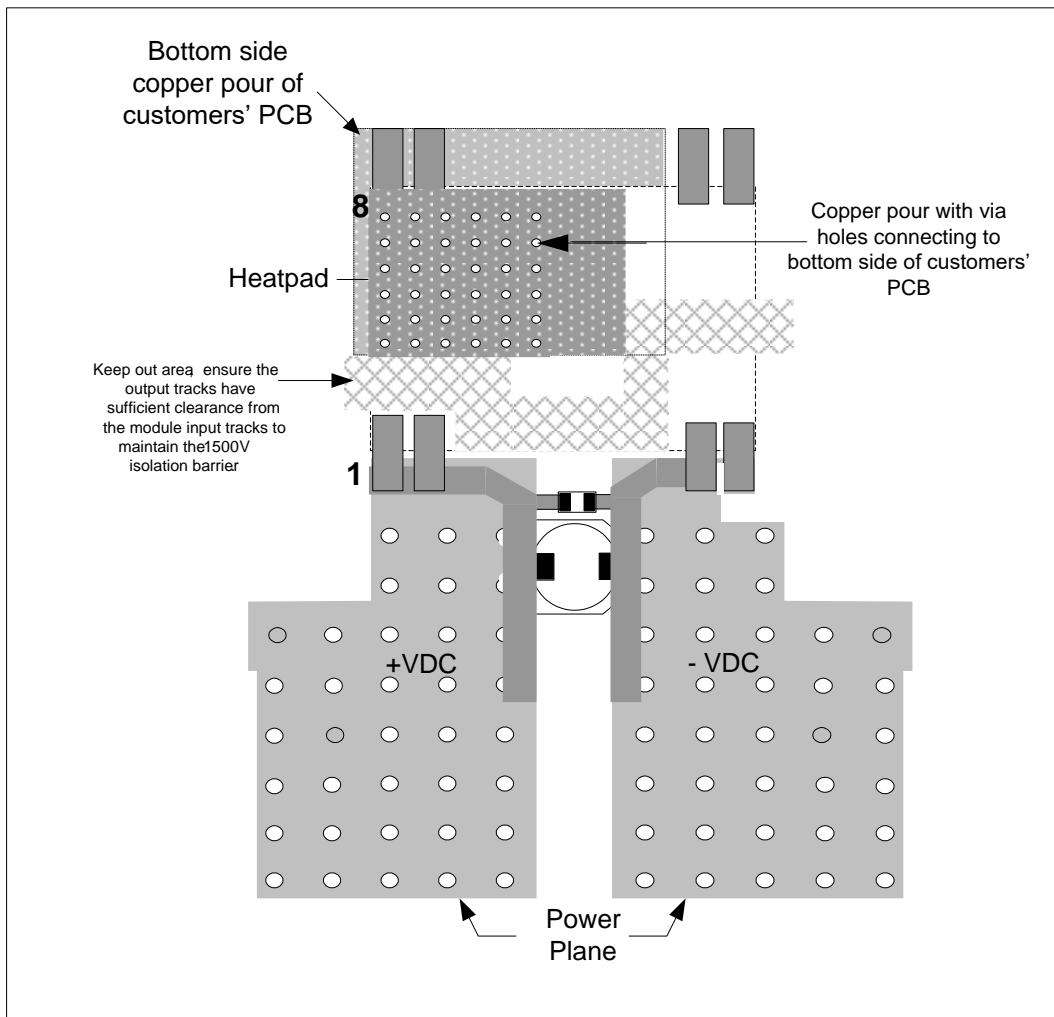

Figure 12: Ag9900M Thermal Relief
To meet the safety isolation requirements of IEEE802.3af section 33.4.1 a Powered Device (PD) must pass the electrical strength test of IEC 60950 sub clause 6.2. This calls for either a) 1500Vac test or b) 1500Vdc impulse test. The Ag9900M is specified to meet the 1500Vdc impulse test. It is also important that the tracks on either side of the isolation barrier have at least a 3mm clearance, see Figures 12 & 14 for more information.
One simple method for drawing some of the heat away from the Ag9900M is shown in Figure 12. Power planes connected to the +VDC and -VDC pins of the Ag9900M can be used to draw heat away from the DC/DC converter via the output pins.
These power planes must be on the outer layers of the PCB and the best results are achieved by having power planes on both sides of the main board with multiple through-hole connections (as shown in Figure 12).